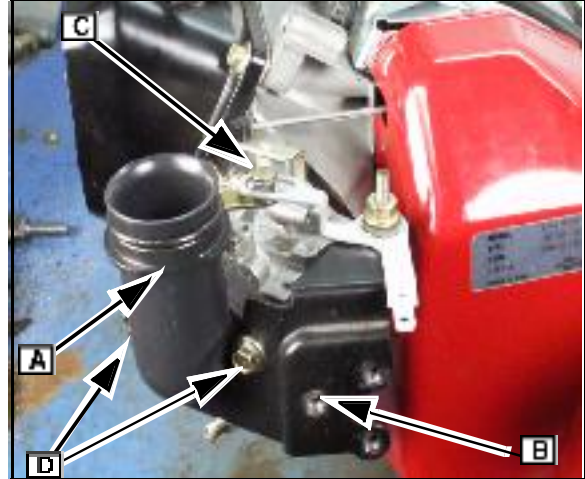

Fig. 35
10. Install the intake manifold (A) and the bracket for the fuel shut-off valve (B). Engage the choke control (C) as shown.
11. Torque carburetor mounting bolts ([D] Fig. 35) to values listed. See SECTION 14- ENGINE SPECIFICATIONS.